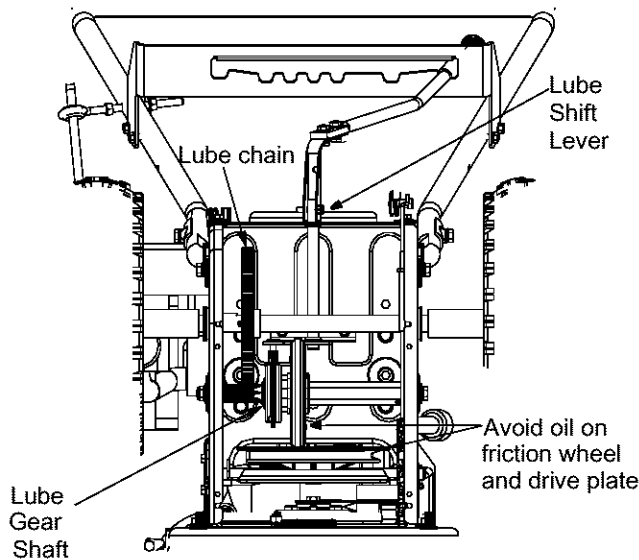

Figure 8
- **Drive and Shifting Mechanism:** Remove rear cover. Oil any chains, sprockets, gears, bearings, shafts, and shifting mechanism at least once a season. See Figure 8. Use engine oil or a spray